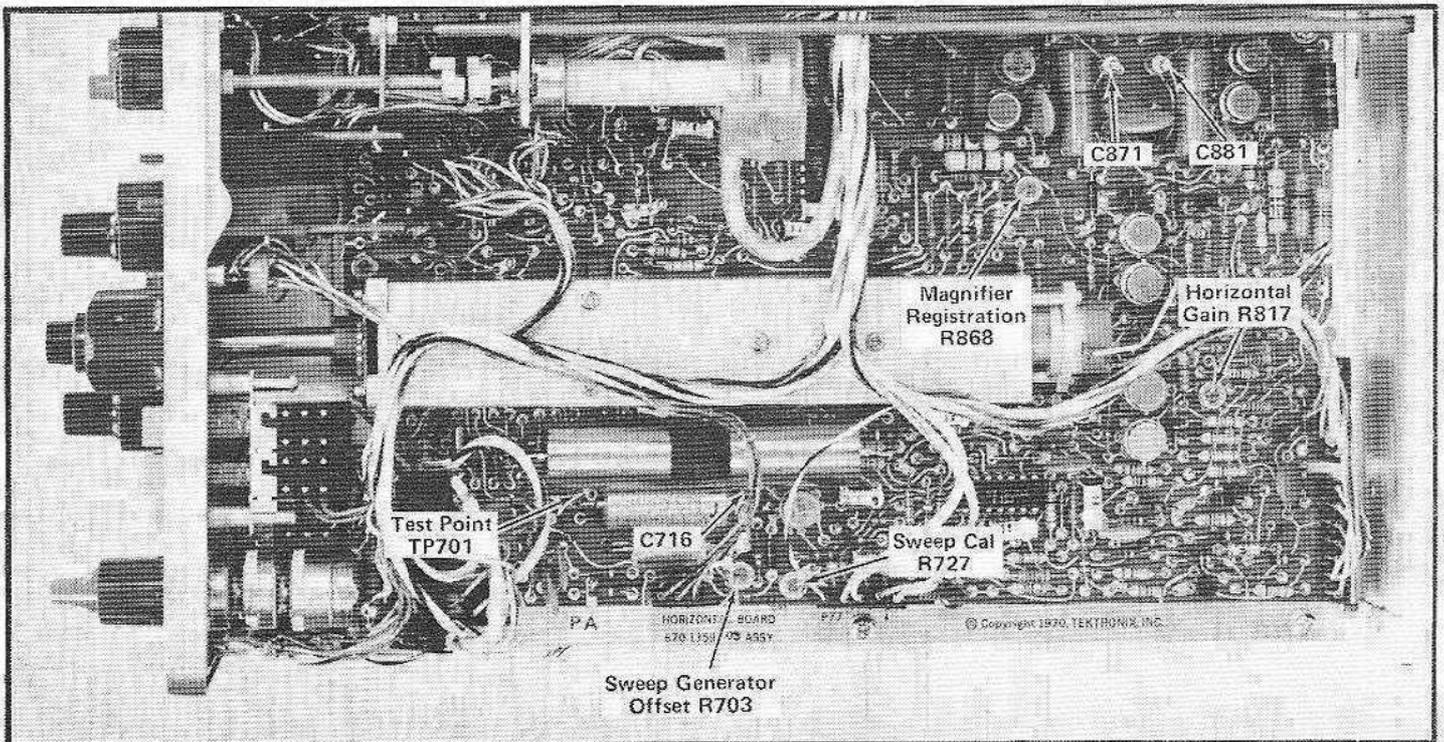

Fig. 5-12. Location of horizontal system adjustments and test points.
- b. Connect the tip of the 1X probe to TP701 (see Fig. 5-12).
f. ADJUST—Sweep Generator Offset adjustment R703 (see Fig. 5-12) to center the test oscilloscope display around the 0 V DC reference level.
- f. ADJUST—Sweep Cal adjustment R727 (see Fig. 5-12) for a sweep duration of 11 milliseconds.
- c. ADJUST—Horizontal Gain adjustment R817 (see Fig. 5-12) for one one-millisecond time mark per division.
f. ADJUST—Magnifier Registration adjustment R868 (see Fig. 5-12) to align the middle time mark with the center vertical graticule line.
- d. ADJUST—C716 (see Fig. 5-12) for two time marks per division.
h. ADJUST—C871 and C881 (see Fig. 5-12) for best timing and linearity excluding the first and last two divisions of the magnified sweep.
k. ADJUST—C871 and C881 (see Fig. 5-12) as necessary for the best compromise of timing and linearity between $1 \mu\text{s}$ with 50X magnification and $.2 \mu\text{s}$ with 10X magnification.